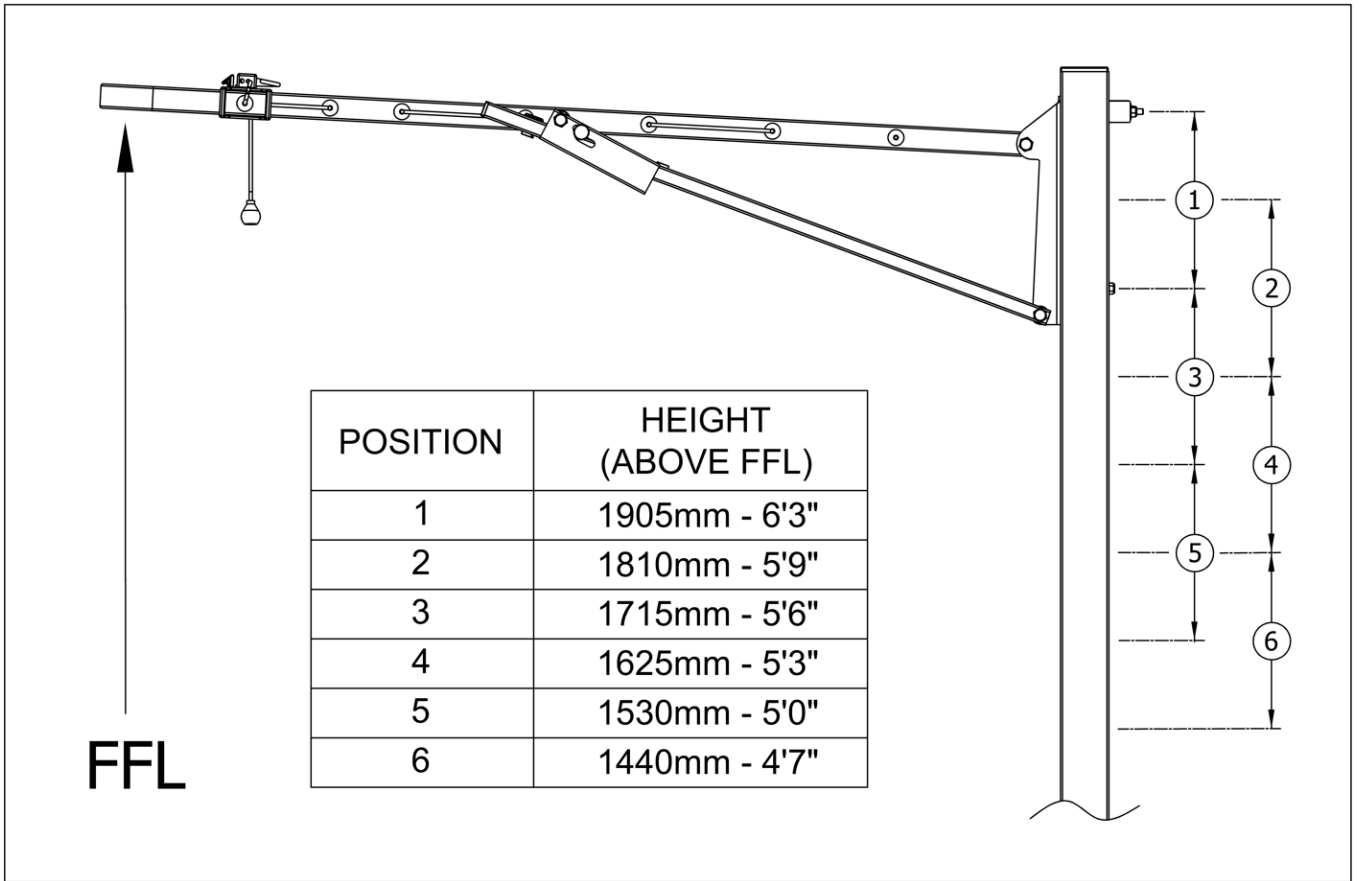

Fig 5. Installation Heights.
5. Calculate the required height, 50mm above users head height is recommended. (Fig 5).
4. Calculate required height. 50mm above users head height is recommended. (Fig 5).